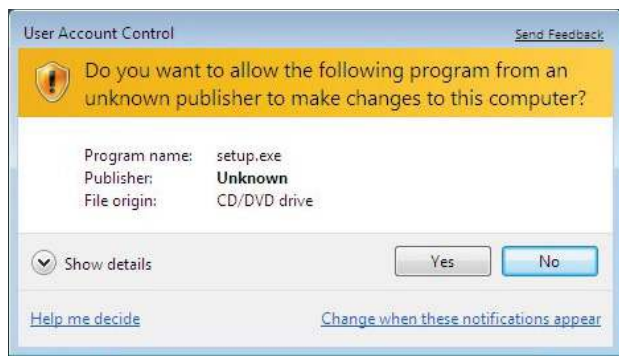

Figure 3. AD7172-4 User Account Control Permission Dialog Box
3. A dialogue box appears asking for permission to allow the program to make changes to the PC (See Figure 3). Click **yes**.